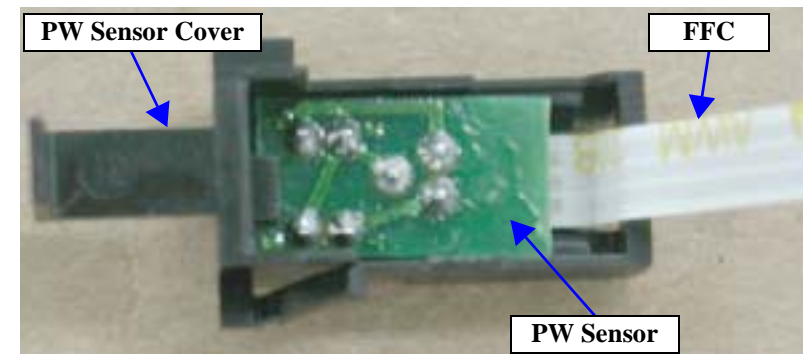

Figure 4-99. Removing the PW Sensor
- Insert the FFC into the PW Sensor securely. Refer to Figure 4-99, "Removing the PW Sensor".